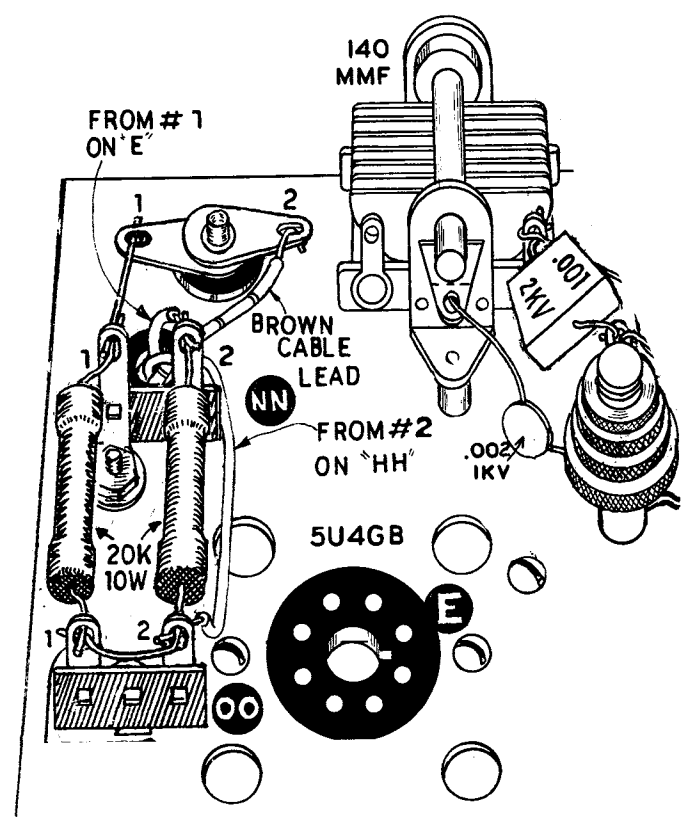

Figure 13
- () Trim the leads on a .002 μ f disc capacitor to 3/8" long. Connect one end to #1 on MM (NS). Connect the other end to #2 on MM (NS).
- () Trim the leads on a (white dot) line choke to 5/8" long. Connect one end to #2 on LL (NS). Connect the other end to #1 on MM (S-3).
- () Trim the leads on a .002 disc capacitor to 3/8" long. Connect one end to #3 on LL (NS). Connect the other end to #2 on LL (S-3).
- () Trim the leads on a .002 disc capacitor to 3/8" long. Connect one end to #3 on MM (NS). Connect the other end to #2 on MM (S-3).
- () Trim the leads on a (white dot) line choke to 3/4" long. Connect one end to #3 on MM (S-3). Connect the other end to #4 on LL (NS).
- () Trim the leads on the 20 Ω 1% precision resistor to 1/2" long. Connect one end to #1 on terminal strip II (NS). Connect the other end to #2 on II (NS).
- () Trim the leads on a .002 μ f disc capacitor to 3/8" long. Connect one end to #1 on II (S-2). Connect the other end to #2 on II (NS).
- () Cut a piece of green hookup wire to 10" long. Trim the insulation off the ends 1/4". Connect one end to #2 on II (NS). Run the other end close to the chassis and up to the front apron toward the operation switch, and down through the 3/8" grommet, to be connected later.
- () Cut a piece of gray hookup wire to 4" long. Trim the insulation 1/4" off the ends. Connect one end to pin #1 on socket E (NS). Run the other end close to the chassis and down through the 5/16" grommet next to the pilot light socket. Connect this end to #2 on terminal strip NN (NS). See Pictorial 2 and Figure 13.
- () Cut a piece of gray hookup wire to 5 1/2" long. Trim the insulation 1/4" off the ends. Connect one end to #2 on HH (NS). Run the other end down the 5/16" grommet next to the pilot lamp socket and connect to #2 on terminal strip OO on the top side of the chassis (NS). See Pictorial 2 and Figure 13.
- () On the top side of the chassis, connect one end of a 1 1/2" piece of #20 bare wire to #1 on terminal strip NN (NS). Connect the other end to #1 on the pilot light socket (S-1). See Figure 13.
- () Trim one lead on a 20 K Ω 10-watt resistor to 1/2" long. Thread the longer end through #2 then #1 on terminal strip OO (NS). The short end connects to #2 on terminal strip NN (NS). Position the resistor body an equal distance between NN and OO, then solder #2 on NN and #2 on OO.
- () Trim one lead on a 20 K Ω 10-watt resistor to 3/4" long and the other to 1/2" long. Connect the 3/4" end through #1 on NN and the other 1/2" end through #1 on OO. Align the resistor body neatly as shown in Figure 13. Then solder both connections.